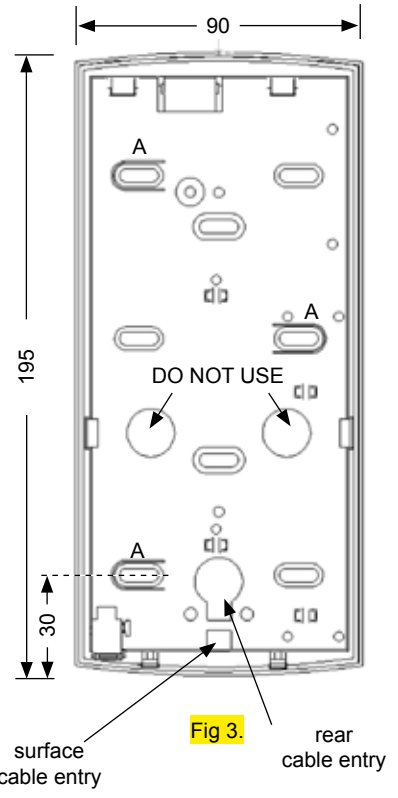

Fig 3.
1. Ideally, wiring should enter the PTS from the rear as per Fig 3 but can also be wired surface as shown. The top of the unit should be at a height of 1.4m (700mm for a disabled user) from floor level.